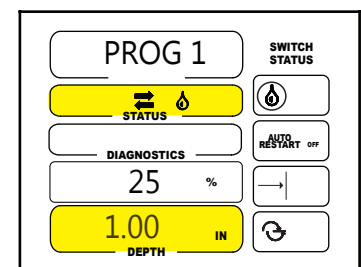

Figure 55-3
3. Set water on and depth of water for the sector. See figure 55-3.